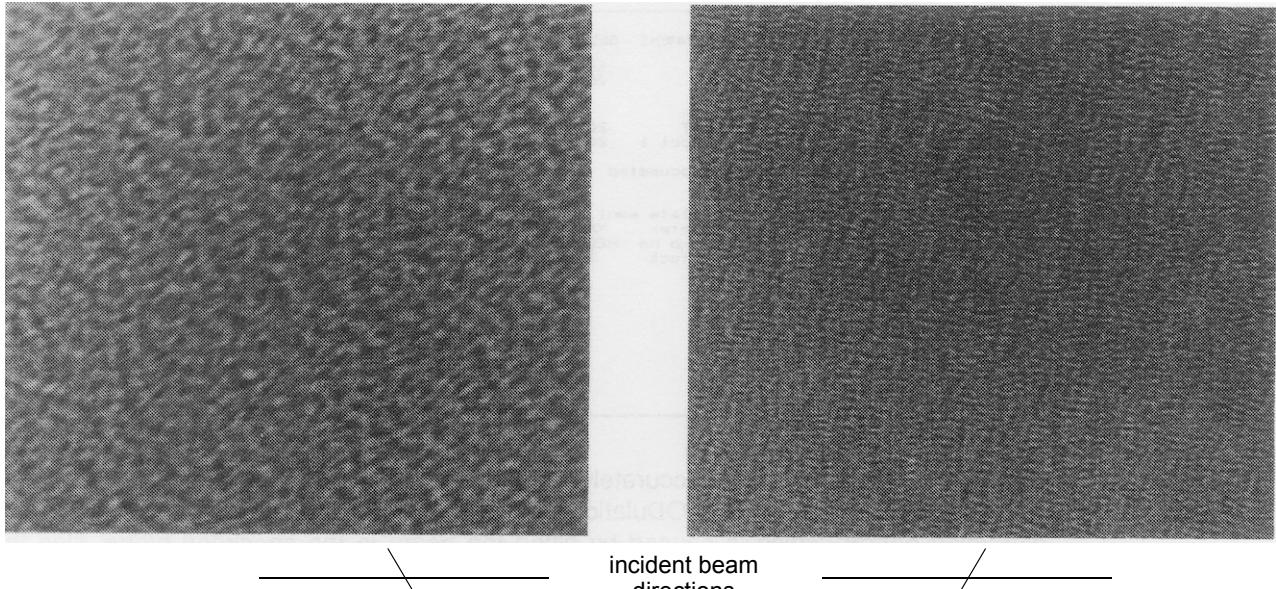

Fig.2.18. Carbon foil images obtained at two different angles of the incident beam, objective lens (rotation) alignment uncorrected
9. Reselect COMA-FREE and observe the change in the contrast appearance of the carbon foil granularity. In general it will show different types of contrast at the two incident beam directions provided by the COMA FREE wobbler (see Fig. 2.18).